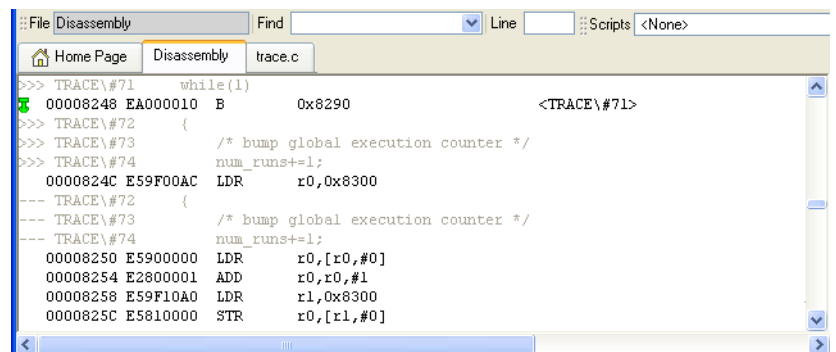

Figure 10-36 Trace Start Point set
- h. Click **OK**. The dialog box closes, and the Trace Start Point is set as indicated by the green arrow. Figure 10-36 shows an example: